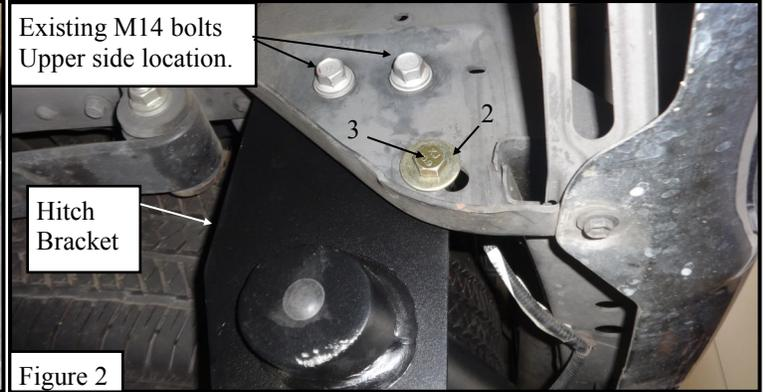

Figure 2
4. With assistance, place hitch brackets on frame as shows in figure 2.
5. Use the existing M14 bolts on the upper side holes from the frame into the hitch bracket holes and use them with supplied M14 hardware (Figure 2 and 3 Items 6, 7 and 8).
7. Install at the bottom slot, in the frame and into the hitch hole, the M12 hex bolt (Item 3), Washer (Item 2), Cone washer (Item 5) and M12 Hex nut (Item 4). (Figures 2 and 3).